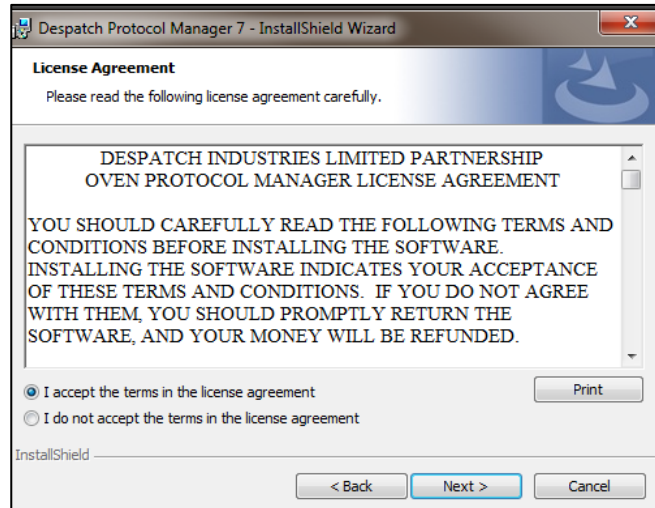

**Figure 5. Protocol Manager Installer Welcome Screen.**
- 5. Double-click **Despatch Protocol Manager** application to show the installer welcome screen (Figure 5)